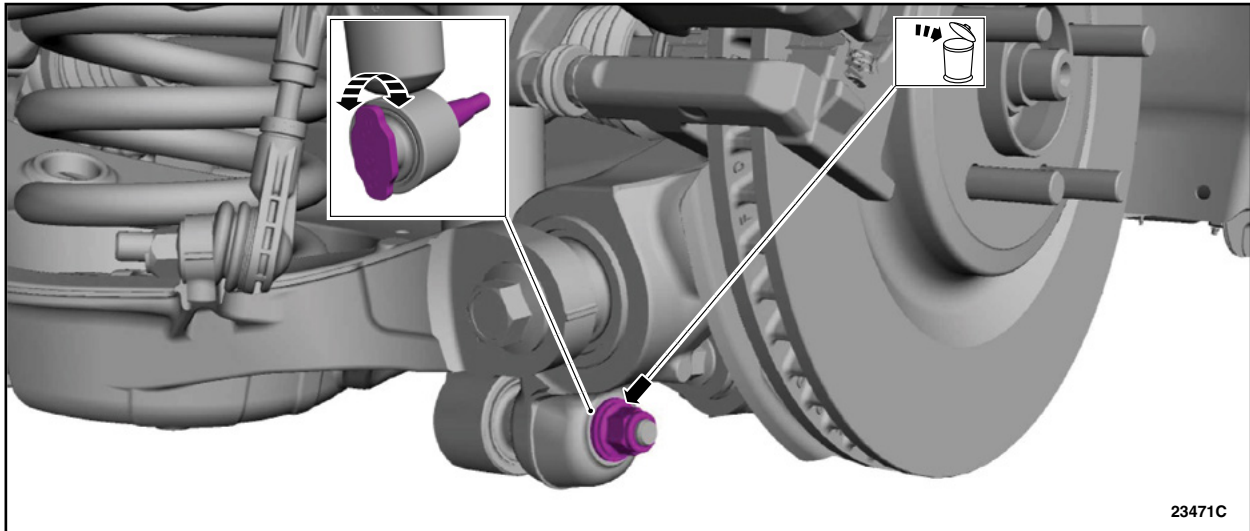

FIGURE 5
9. Remove and discard the LH rear shock absorber lower nut. See Figure 5.